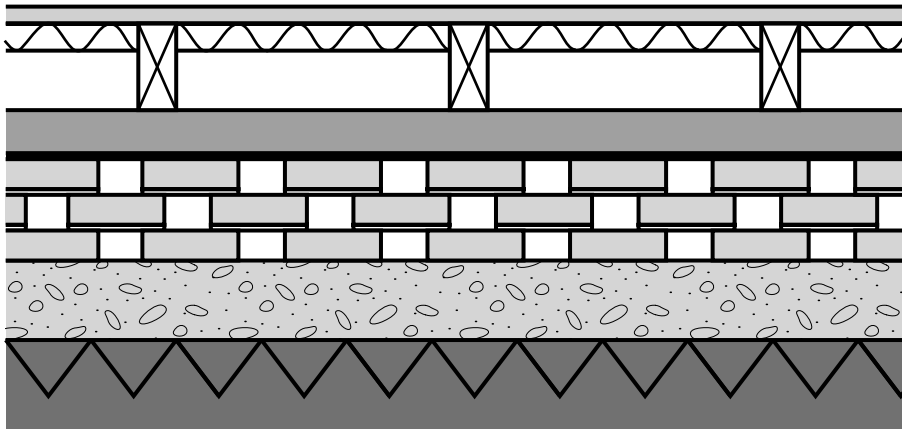

Fig. 1
Fig. 1 shows a floor structure.
(a) Give FOUR design requirements for the floor structure shown in Fig. 1. Justify each requirement.
- (e) (i) State a SUITABLE SPECIFIC MATERIAL for the finish to the floor structure shown in Fig. 1. Give TWO properties or characteristics that make the material suitable for this use.**